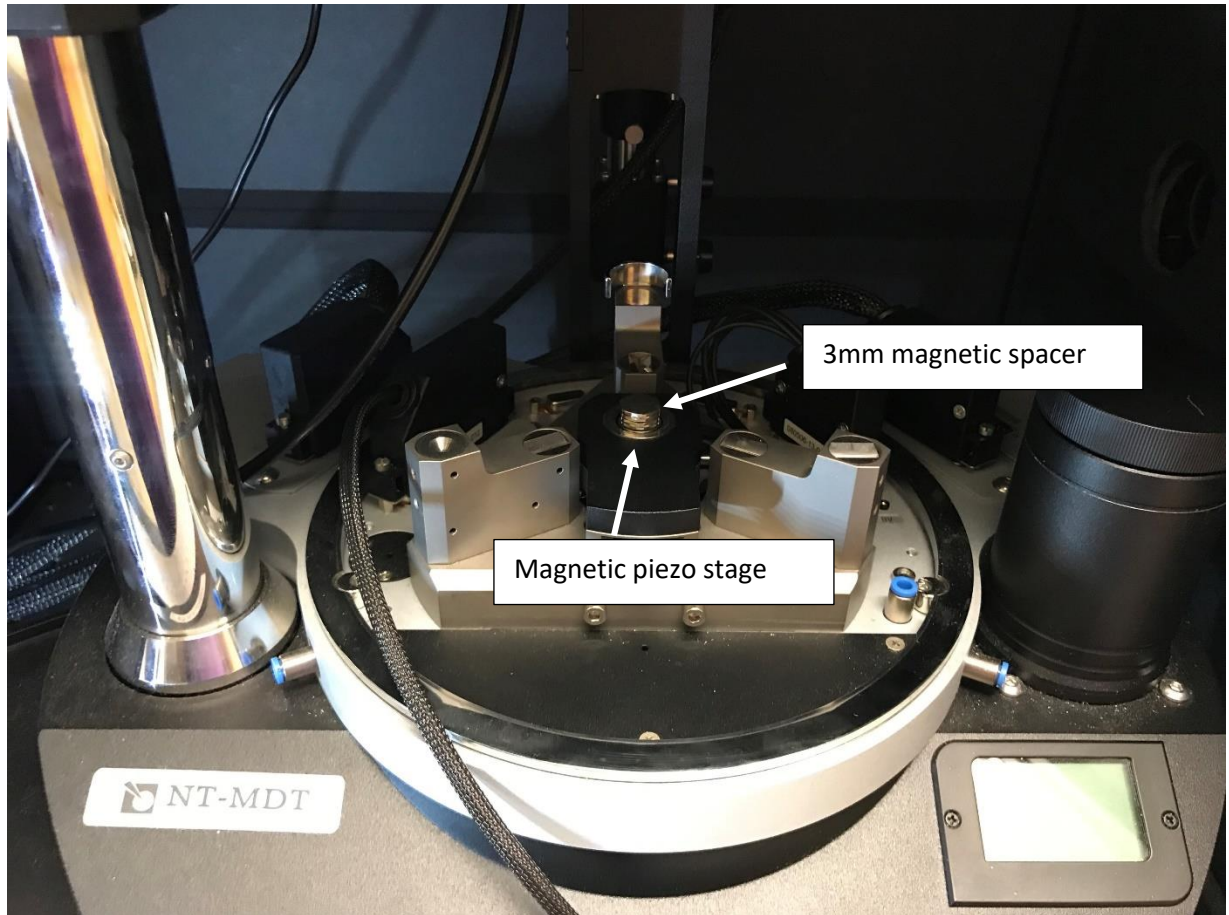

Figure 1: Magnetic spacer and magnetic piezo stage
- The piezo stage is magnetic as well as the 3mm spacers (Figure 1)